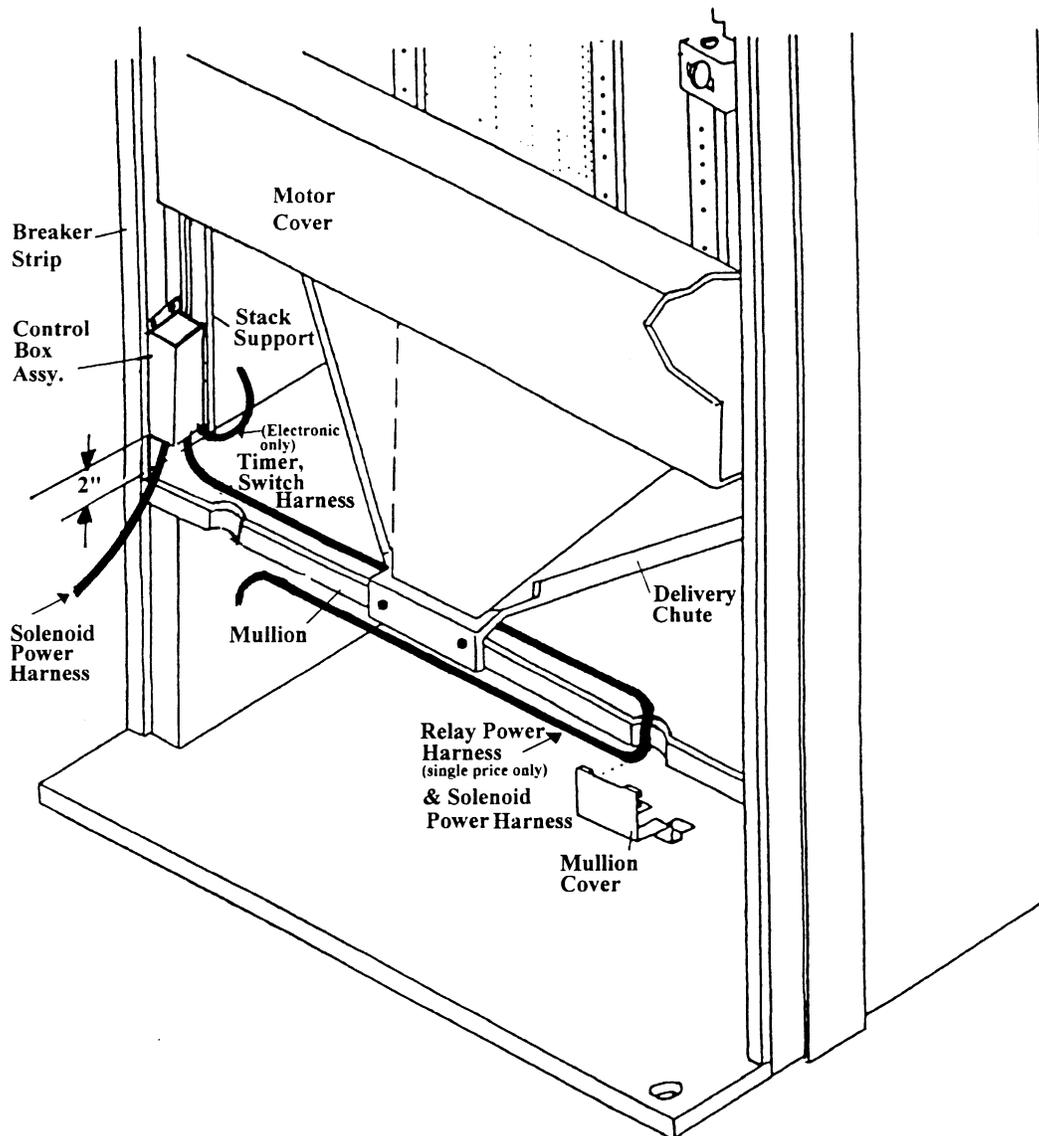

Figure 2
- A) Place the Control Box Assembly in the refrigerated compartment. It should be placed flush against the left Stack Support, approximately 2" off the inner tank bottom. See figure 2 on page 4.
- A) Place the Control Box Assembly into the refrigerated compartment. It should be placed on the left side between the Stack Support and the Breaker Strip, approximately 2" off the inner tank bottom. See figure 2 on page 4.